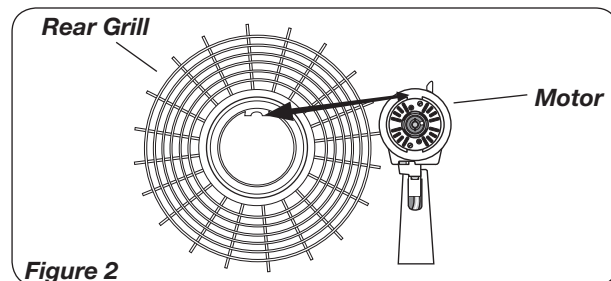

Figure 2
2. Align tab of **Rear Grill** with groove on top of front **Motor** cover. (Figure 2)